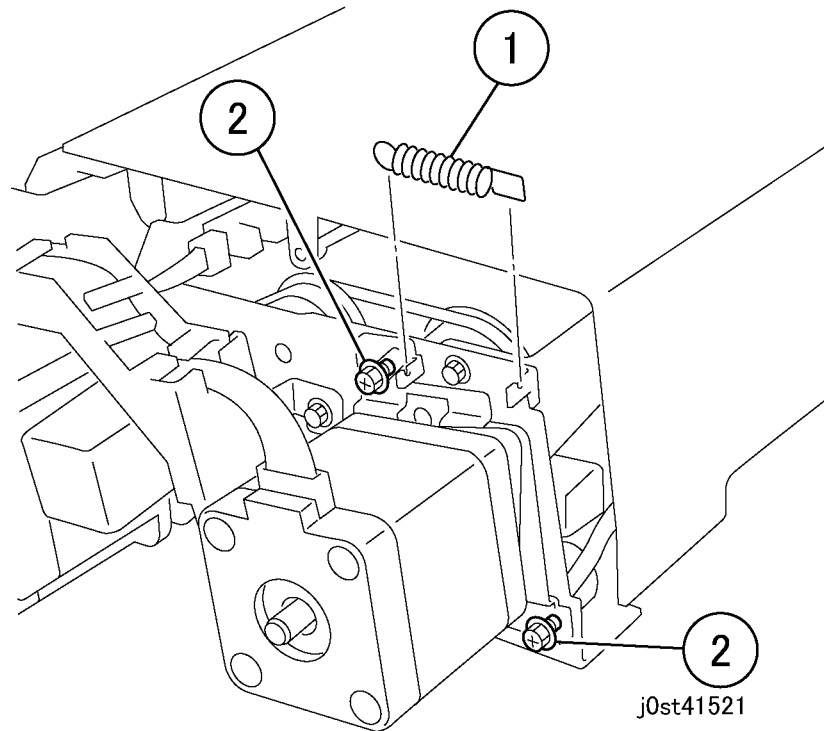

Figure 1 Loosening the belt tension (j0st41521)
6. Loosen the belt tension on the DADF Registration Motor. (Figure 1)